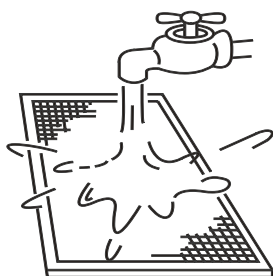

Figure 13.2
- b. The air intake side should face down when using clean water. (Refer to Figure 13.2)